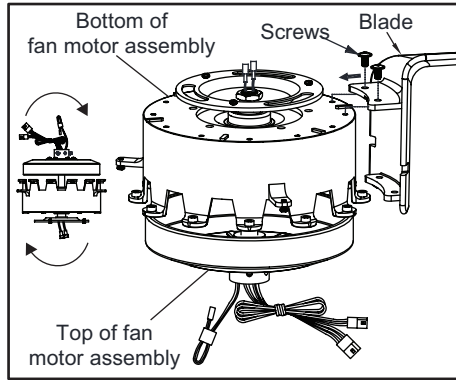

Figure 5
2. Repeat these steps for remaining blades. (Figure 5)